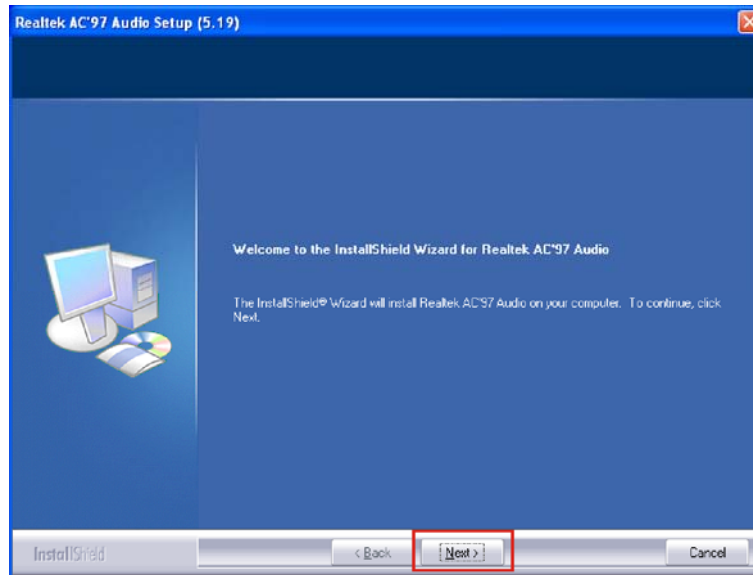

Figure 7-21: AC'97 Driver Installation Welcome Screen
Step 5: The AC'97 Driver Installation screen in **Figure 7-21** appears.